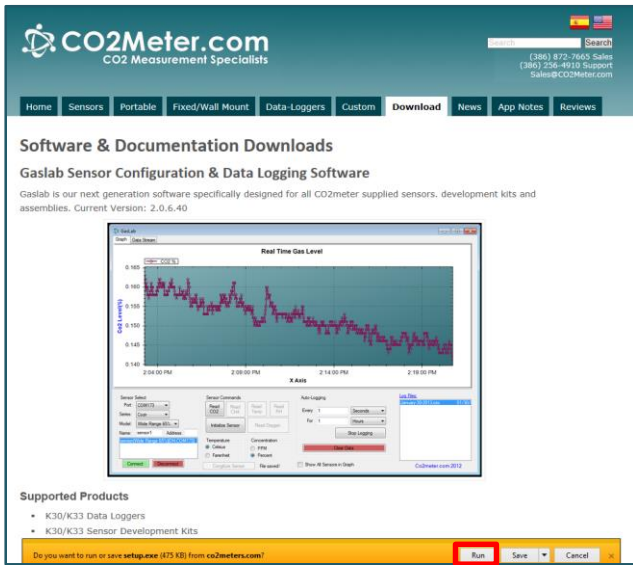

Figure 2: GasLab® download page (Internet Explorer 11 shown)
1. Start by downloading the GasLab® Software to your computer as shown in the **Figure 2** on page 8.